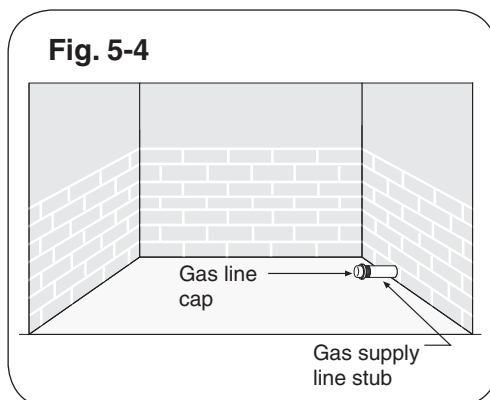

Fig. 5-4
2. Locate the gas-supply stub inside the fireplace and remove the cap, if attached (see Fig. 5-4).